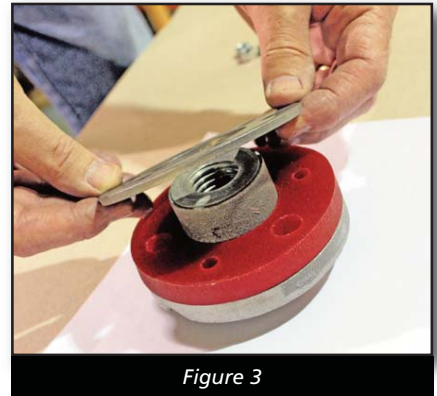

Figure 3
- **HUB CARRIER RING:** Place the hub carrier ring over the poly ring so holes in hub carrier ring line up with holes in the poly ring as shown (See figures 3 and 4).